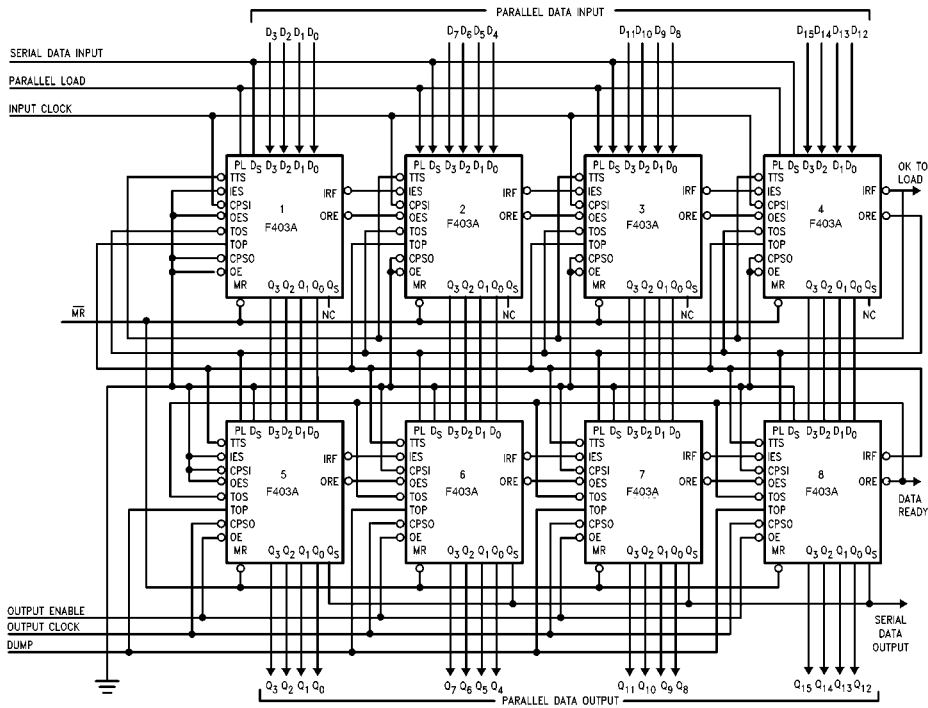
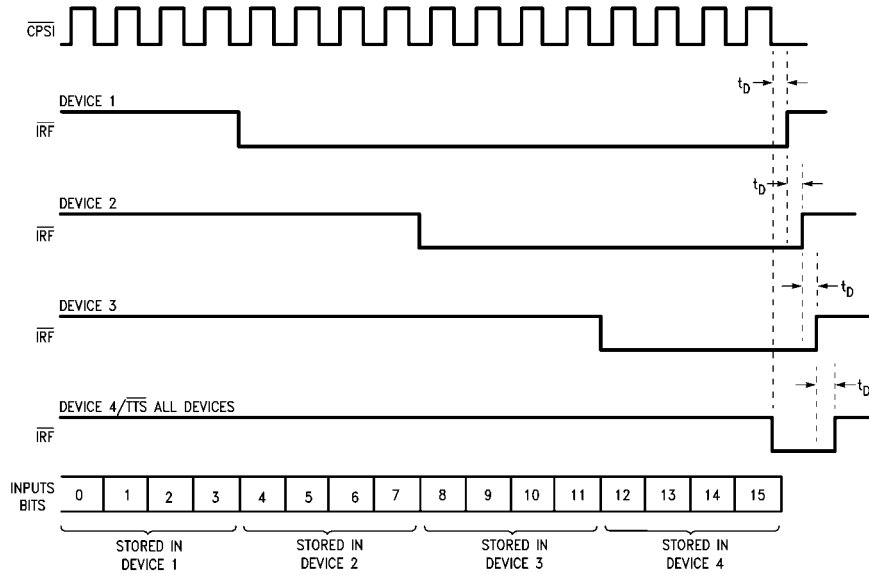
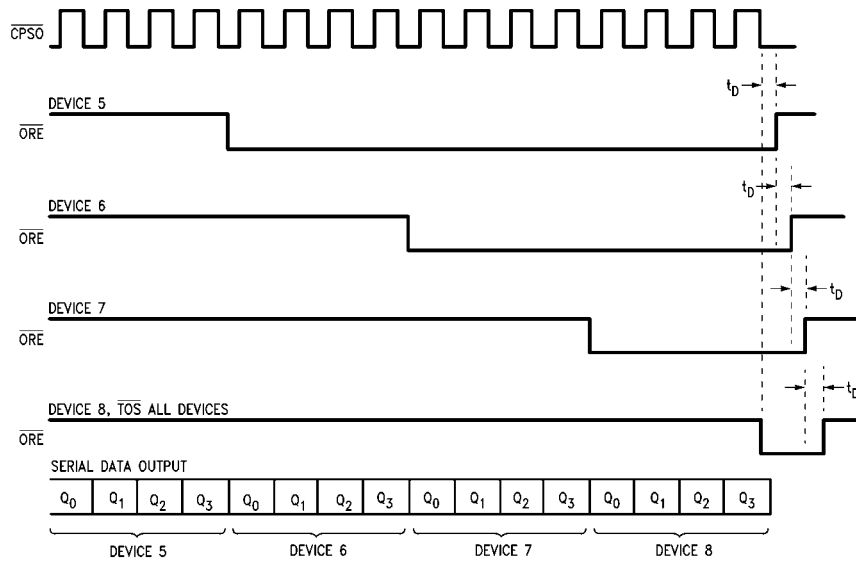
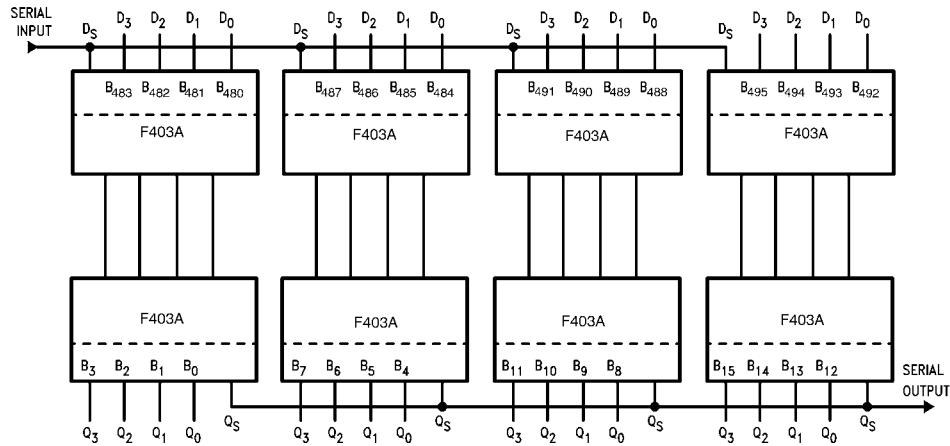

FIGURE 6. A 31 x 16 FIFO Array
FIGURE 7. Serial Data Entry for Array of Figure 6
FIGURE 8. Serial Data Extraction for Array of Figure 6
FIGURE 9. Final Position of a 496-Bit Serial Input
**Horizontal and Vertical Expansion—** The 74F403A can be expanded in both the horizontal and vertical directions without any external parts and without sacrificing any of its FIFO's flexibility for serial/parallel input and output. The interconnections necessary to form a 31-word by 16-bit FIFO are shown in Figure 6. Using the same technique, any FIFO of  $(15m + 1)$ -words by  $(4n)$ -bits can be constructed, where  $m$  is the number of devices in a column and  $n$  is the number of devices in a row. Figure 7 and Figure 8 show the timing diagrams for serial data entry and extraction for the 31-word by 16-bit FIFO shown in Figure 6. The final position of data after serial insertion of 496 bits into the FIFO array of Figure 6 is shown in Figure 9.
In the 74F403A array of Figure 6 devices 1 and 5 are defined as "row masters" and the other devices are slaves to the master in their row. No slave in a given row will initialize its Input Register until it has received LOW on its  $\overline{IES}$  input from a row master or a slave of higher priority.